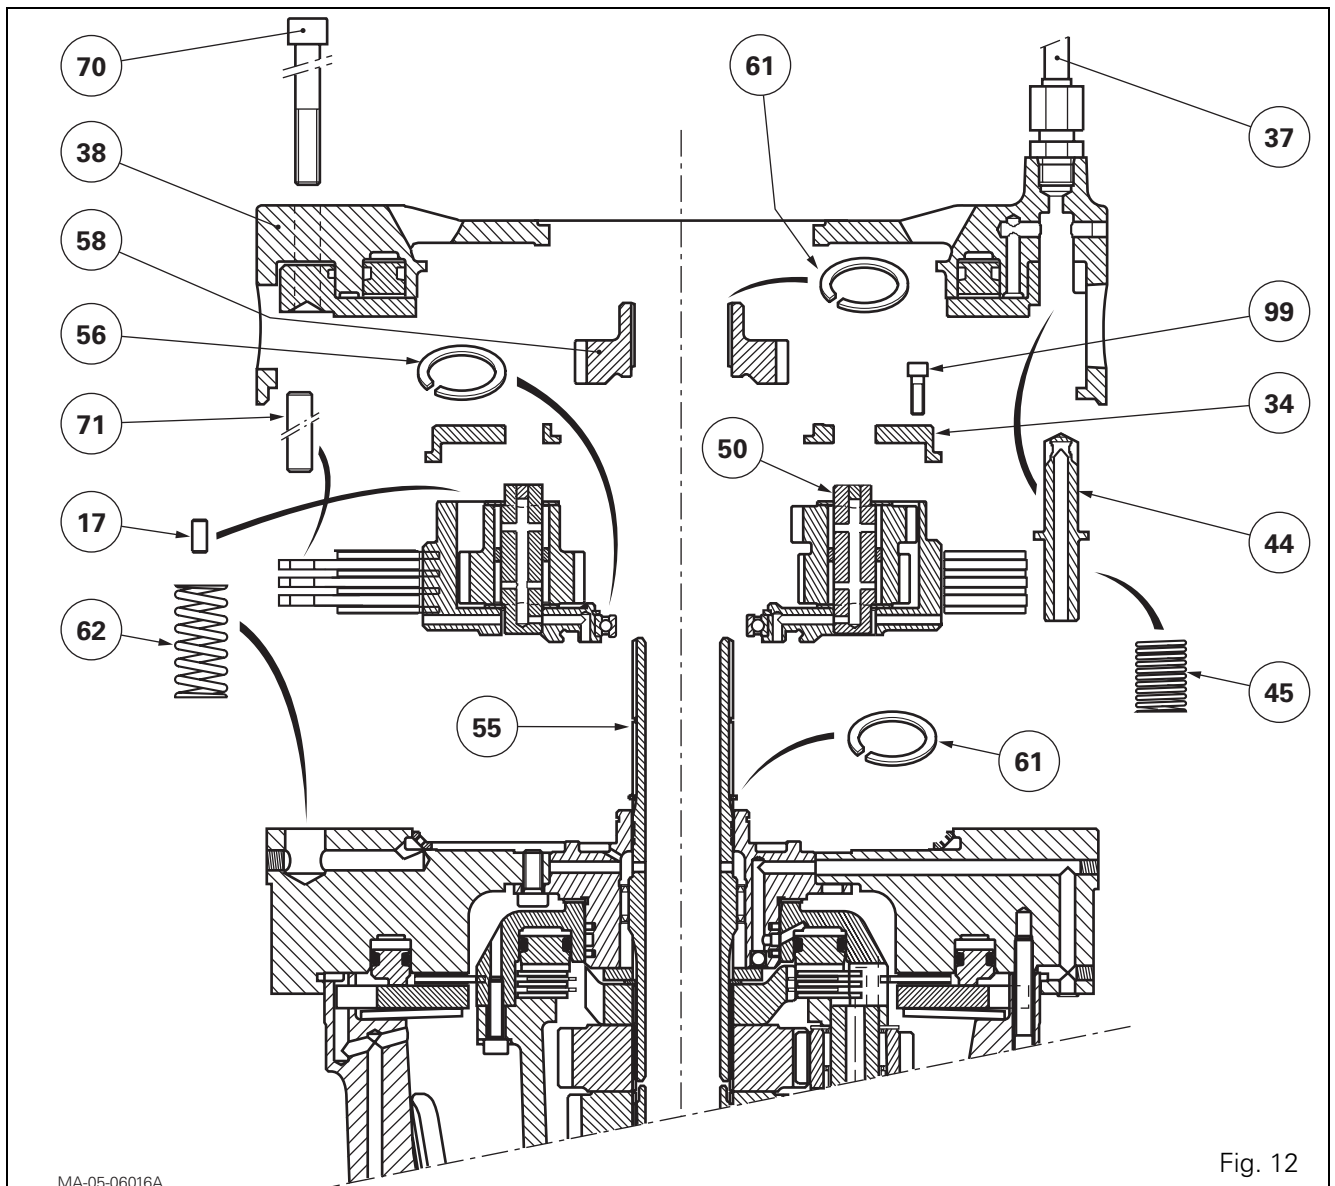
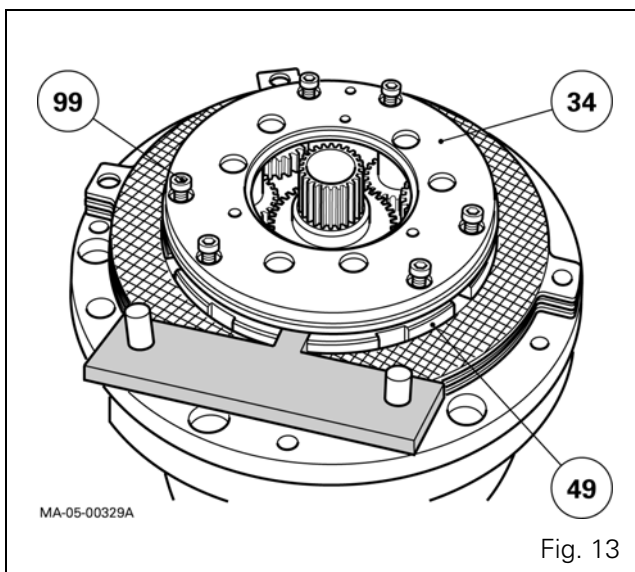
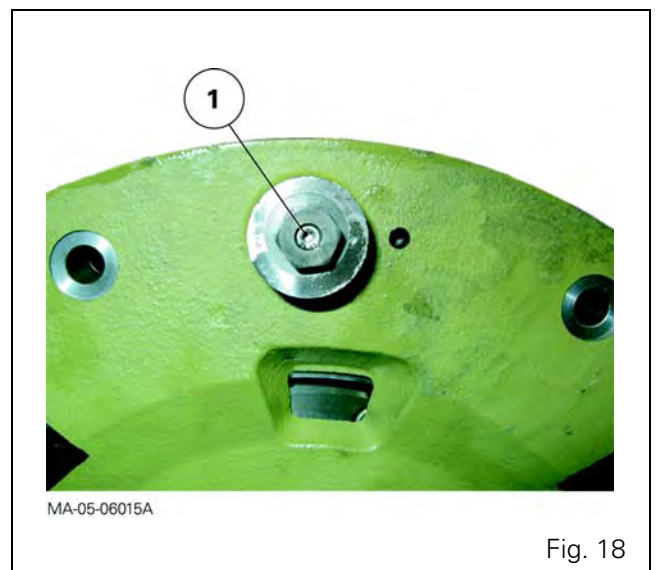

Fig. 12
Fig. 13
Fig. 18
Disassembly (Fig. 12)
67. Remove the screws (70) and the cover plate (38).
68. Recover the spools (44) and the springs (45) (Fig. 12).
69. Remove the large springs (62) and the pins (71).
70. On the cover plate (38), remove:
- the plate (43),
- the seal (42) and discard it,
- the piston (39),
- the seals (36) (41) and discard them,
- the unions (72), the valve (1) (Fig. 18) and the seal (75) from the 17 bar supply port (Fig. 3).
71. Immobilise the planet carrier (49) using the immobilising tool, ref. 3378240M1 (see Fig. 13 and § G).
72. Remove the screws (99) from the cover plate (34) (Fig. 12 and Fig. 13) and remove the cover plate.
73. Remove the discs (47) and the intermediate plates (46).
74. Separate the output sun gear (58), held by the snap rings (61), from the primary shaft (55) (Fig. 12).
75. Remove the snap ring (56) (Fig. 12).
76. Remove the planet carrier (49) with the double and single planet gears (52) (59).
77. On the planet carrier (49), remove:
- the plates (63),
- the pins (50) and double planet gears (52) assembly Mark their position,
- the pins (50) and single planet gears (59) assembly Mark their position,
- the snap ring (98) and the bearing (57).
88. Check that the centring pin (17) is present (Fig. 12).
89. Refit the cover plate (34). Check that it is correctly positioned on the planet gear pins (50) and in the centring pin (Fig. 12).
91. Fit and tighten the screws (99) Fig. 12) to 36 - 46 Nm with its thread lightly smeared with Loctite 242 or equivalent.
92. On the cover plate (38), check for the presence of the rivets (40) at the end of the channels.
95. On the external face of the cover plate (38), fit three sufficiently long and equally spaced studs in the holes provided for the screws (64).
96. Refit and position the cover plate, with the port of the valve (1) facing upwards (Fig. 18).
97. Before fitting the screws (70), it is **mandatory** to check that the spools (44) slide freely in each compartment of the front cover plate on the input unit. To do this, compress the springs (45), using a screwdriver passed through the tapped holes of the unions (72). If the springs cannot be compressed, investigate the cause.
98. Pre-tighten the screws (70).
99. During pre-tightening, check that the spools (44) still slide freely. Also check that each end of the (large) springs (62) is correctly housed in its respective seat.